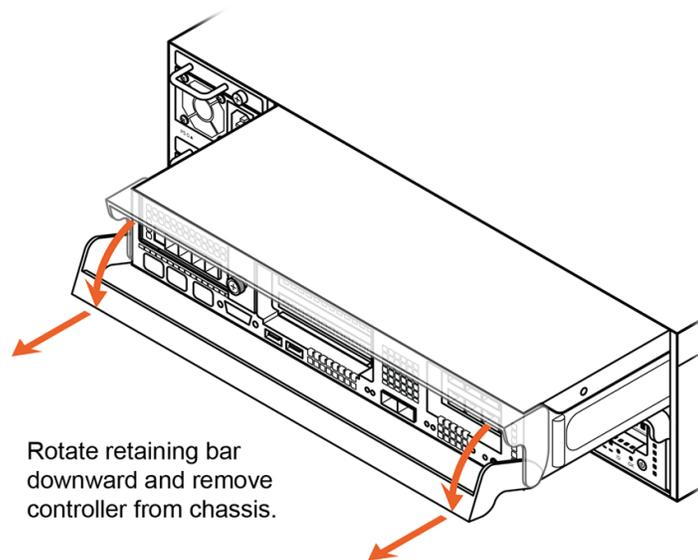

Figure 7-10. Removing the Controller
2. Rotate the controller retaining bar downward and pull the controller from the chassis. See Figure 7-10.